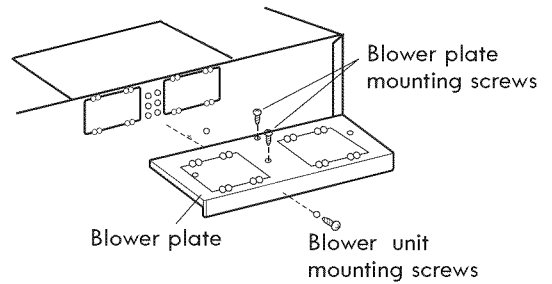

Figure 18
1. Remove one blower unit mounting screw and two blower plate screws. Remove the blower plate from cabinet. See Figure 18.